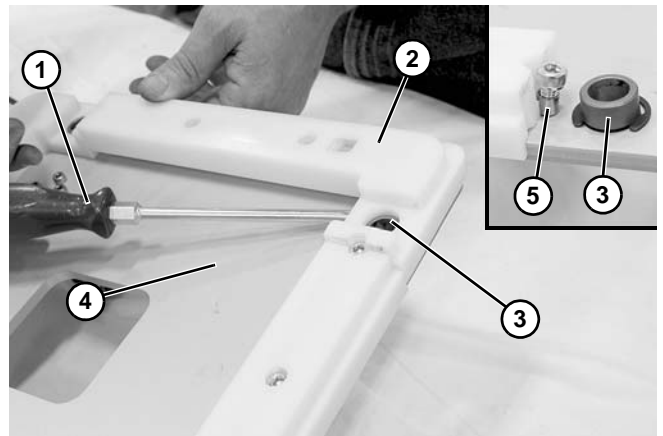

Figure 98
4. Using a flat blade screw driver (**Figure 98, item 1**), pry corner skirt (**Figure 98, item 2**) off bushing (**Figure 98, item 3**).
5. Remove corner skirt from top plate (**Figure 98, item 4**). Make sure not to lose sleeve (**Figure 98, item 5**) at the point where two corner skirts meet.